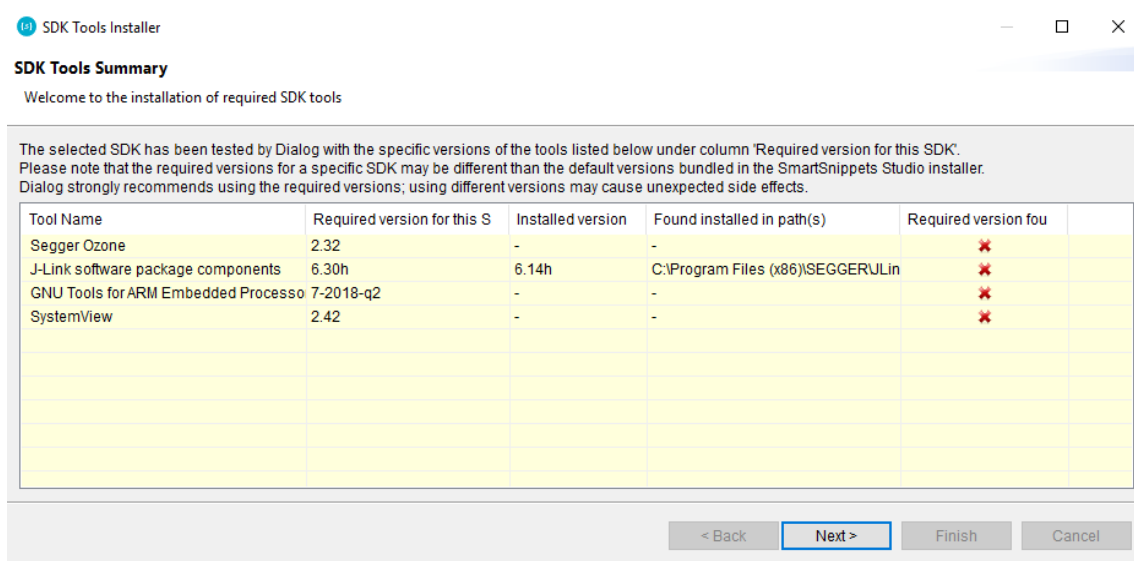
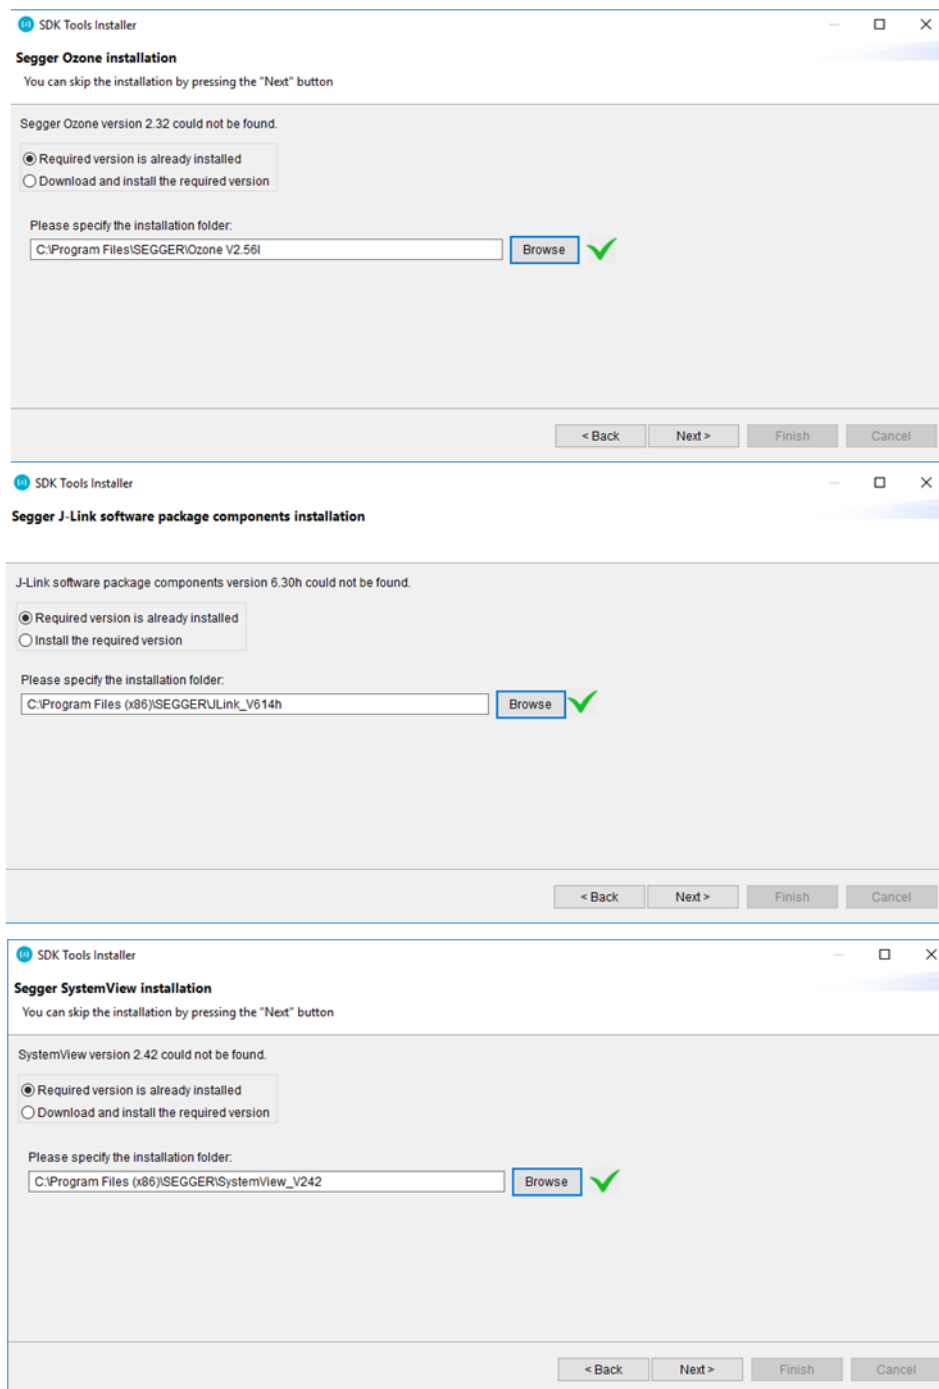

Figure 7: Tools to Be Installed
Figure 8: Set SEGGER Ozone & J-Link Installation Folder
3. To proceed, a number of development tools should be installed (Figure 7), or their installation directory should be given (Figure 8) if they are already installed.